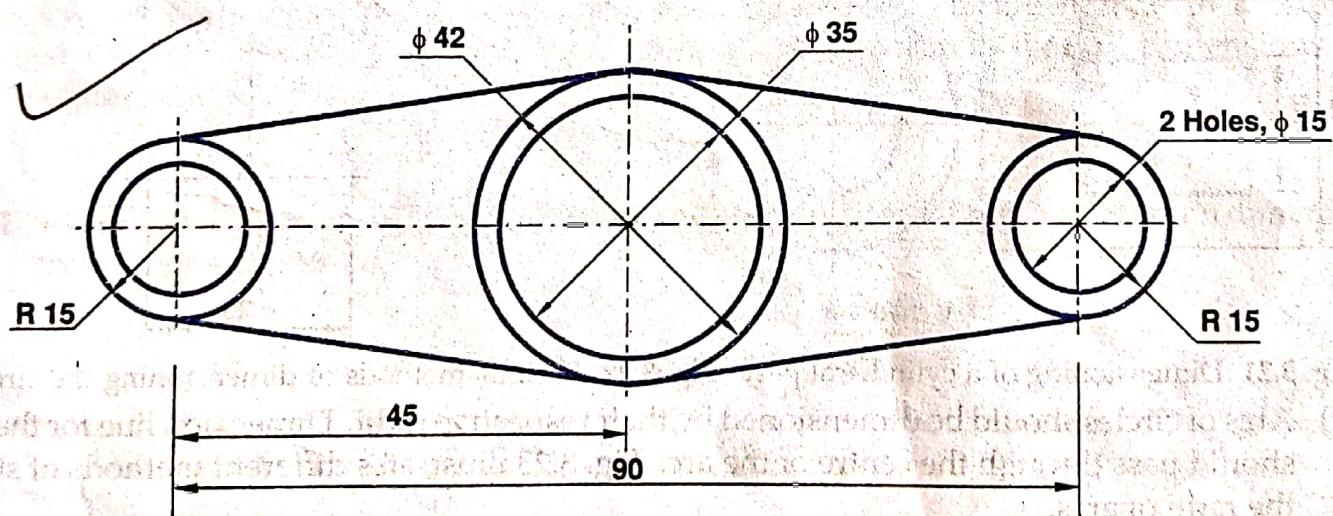

Fig. 3.19 Dimensioning should be marked from the centre of a hole
- (viii) Dimensioning should be marked from a base line or centre line of a hole or cylindrical part or finished surfaces etc., which may readily be located. See Fig. 3.19.